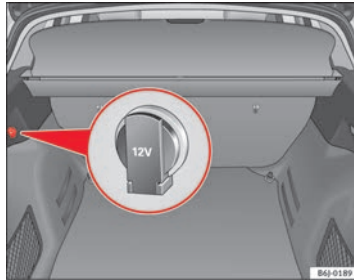

Fig. 88 Detailed view of the side trim in the luggage compartment: 12 volt power socket
- Lift the power socket cover ⇒ Fig. 88.